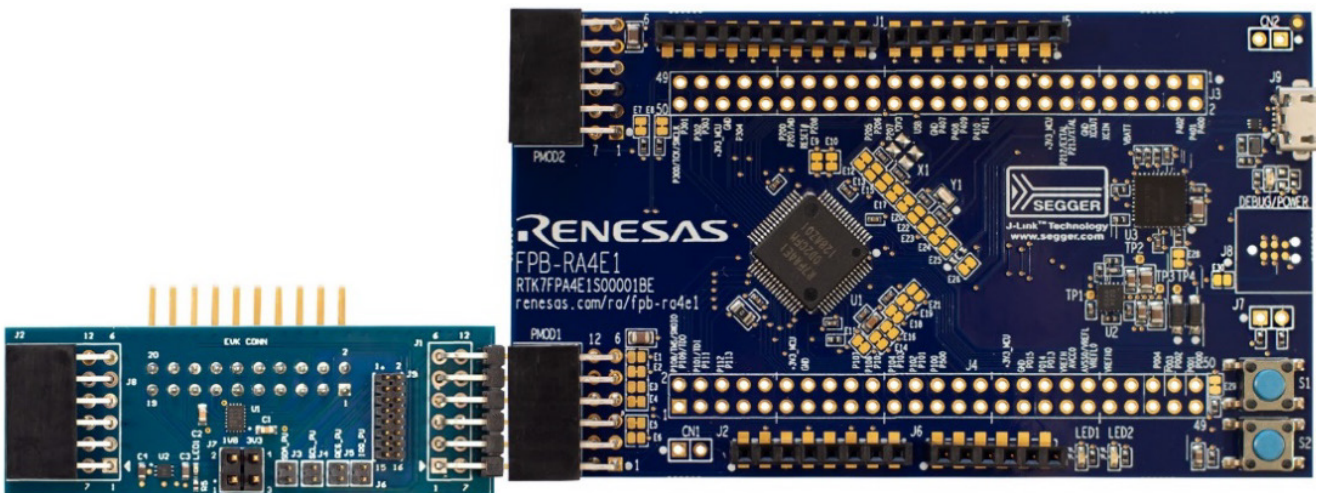

Figure 8. RA MCU and QCIOT Board Connection
| Figure 8. RA MCU and QCIOT Board Connection | 6 |
- Connect J1 of the QCIOT-SLG46826POCZ board to PMOD1 of the FPB-RA4E1 board as shown in Figure 8.